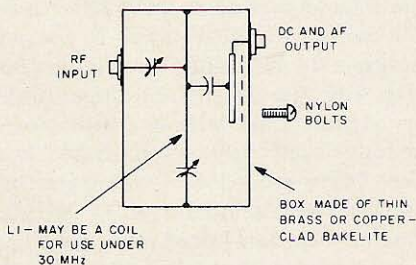

Fig. 4B. Tuned detector.
Watch out also for resonance at other frequencies than 150 MHz. I always check with a tuned detector, Fig. 4B, which acts like a grid-dipper operated in the diode mode. Granted, you have to calibrate the detector first, but you must know *someone* with a signal generator. Use a coil for L1 up to around 300 MHz, and a copper strap from 300 to 1000 MHz. After that a good prayer sometimes helps!
any good UHF transistor, like a 918, 2N3600, etc., or the UHF TV plastic jobs can be had for 39¢. Of course use a wavemeter or grid-dipper of what have you, to be sure you're on 300 MHz. Also, a tuned power detector will help find the frequency for multiplying (A). A simplified schematic is shown in Fig. 4B. A one turn link around the collector coil L1 coupled by an rf cable over to another one-turn link around the grid-dipper coil will do the trick. Once again, the midpoint of capacitor C1 and the larger capacitor C2 should be matched to the next doubler stage base input, and what better method than to use the next stage as an rf voltmeter? As the next base has no dc bias on it except that